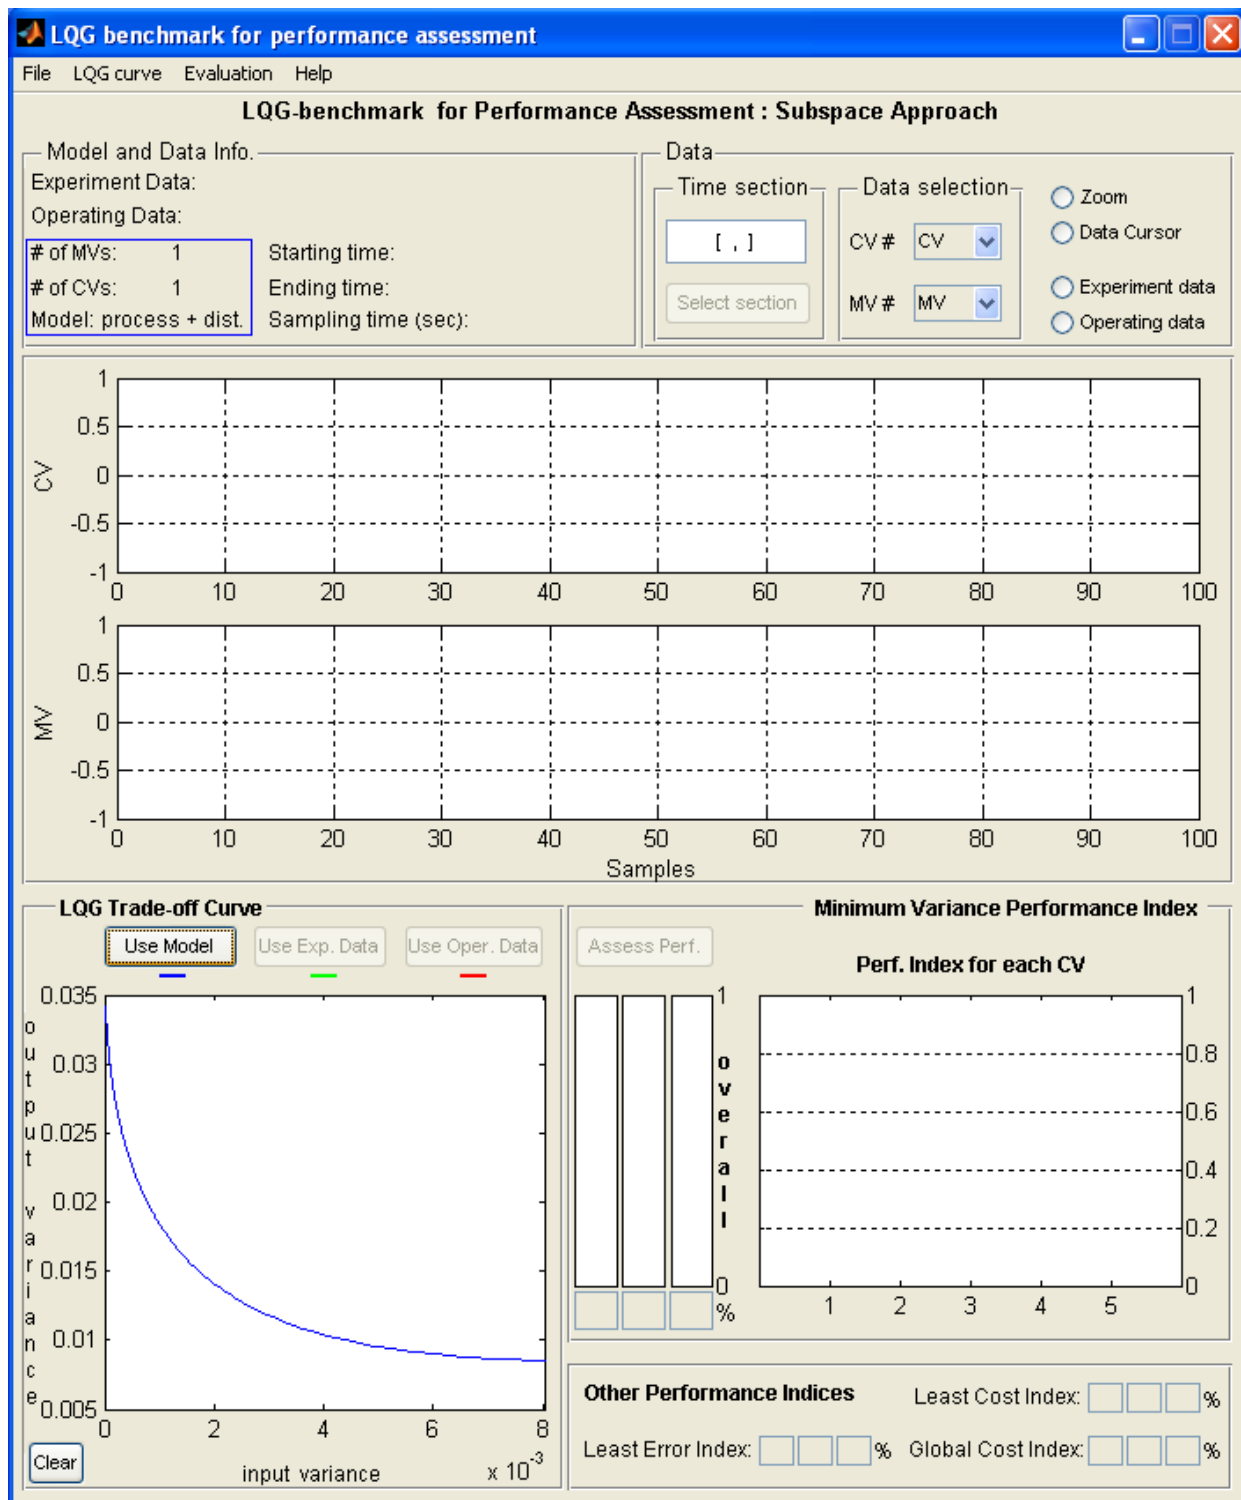

Figure 5: LQG curve calculated using the provided complete model
- 9) If an open-loop model is loaded, you may press the **Use Model** button to generate the trade-off curve (in blue) as in Figure 5. Depending on the type of process dynamics and number of inputs and outputs, it takes a few seconds to a few minutes to perform the calculation.